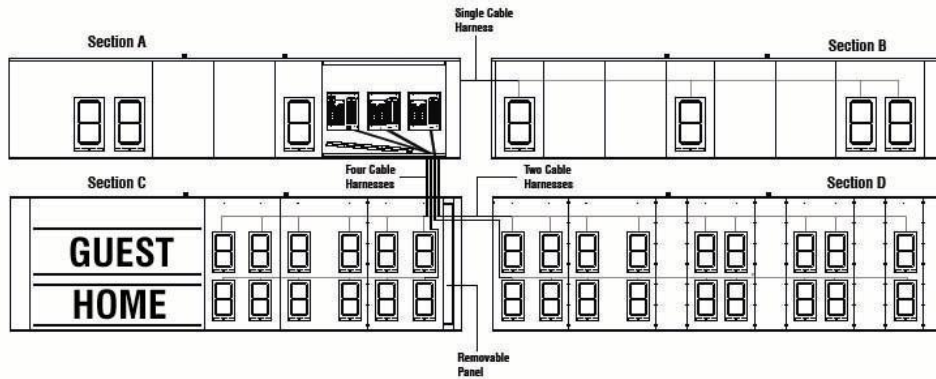

Figure 9: Scoreboard Interconnect Harnessing
Because the four sections of these scoreboards are shipped separately and joined onsite, care must be taken to properly route the interconnect cables. Refer to **Figure 9** and follow this general procedure to connect the digit harnesses.
3. Harnesses should be protruding through a pair of 2½" holes on the left end of *Section D*. Refer to **Figure 9**. Run these cables into the mating holes on the right side of *Section C*, and then continue to route the cabling up and through the two end holes in the top of *Section C*. There are four holes on the upper right side of the *Section C* cabinet. The first two holes are occupied by the digit interconnect cabling from *Section C*, and these two cables should already be routed up and through the top of the scoreboard cabinet.